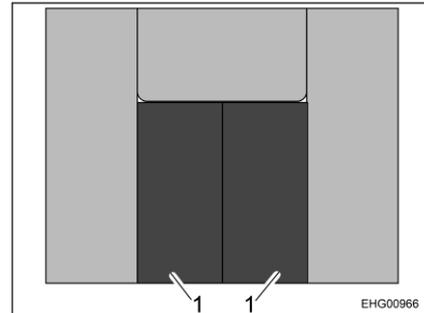

Fig. 67 Cushions plan
- Lay the back cushions (Fig. 67,1) according to the cushions plan (Fig. 67). If the seat cushions were previously removed, put the seat cushions back on.